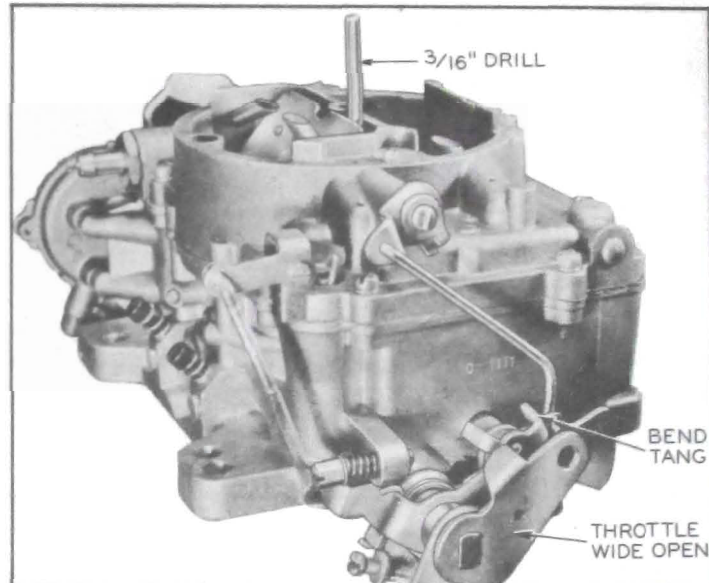

Figure 3-56—Unloader Adjustment
22. *Adjust Unloader.* Hold throttle wide open and check clearance between upper edge of choke valve and inner wall of air horn using a  $\frac{3}{16}$ " drill. Bend unloader tang on throttle shaft lever as required to obtain this clearance using pliers. See figure 3-56.